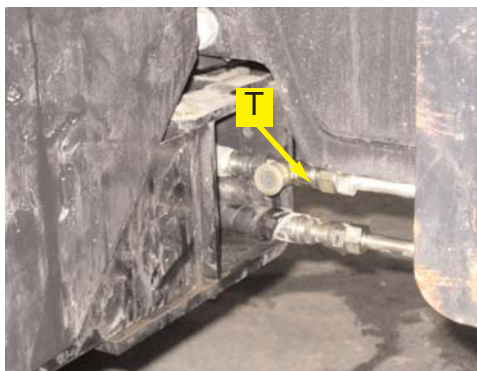

Figure 3e. Installed tank fitting.
d. Locate the cooler lines along the right side of the tractor in front of the battery box. Install the run tee fitting (T) in the upper cooler line between the rubber line and steel line. (Figure 3e.)